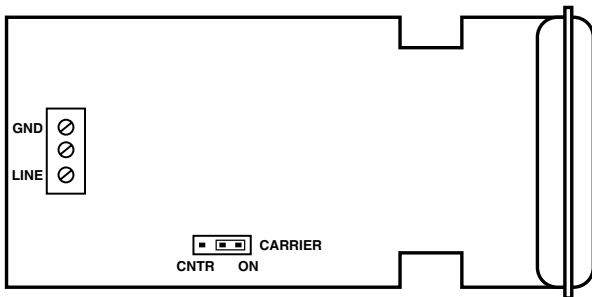

Figure 3-1. Location of the transmit-carrier strap (jumper).
3. Referring to Figure 3-1 below, set the Driver's transmit-carrier strap (jumper) to suit your application: ON for carrier constantly on, CNTR for carrier controlled by RTS.